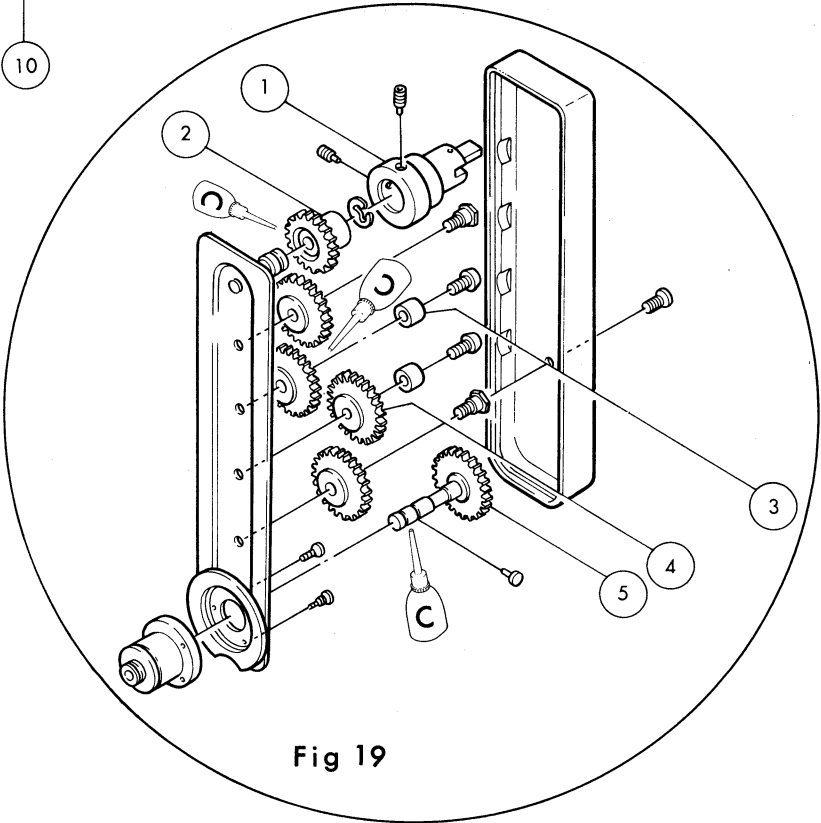

Fig 19
A. Disassembly Refer to Fig.19.
- └ Defective (2)(4)(5) — (1) won't rotate;
- └ Insufficient lubrication between (2)(4)(5) and its shafts;
1. Refer to Fig.19 when disassembling/reassembling.